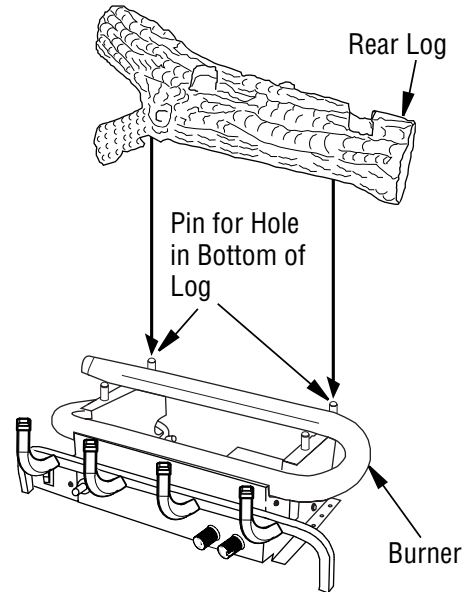

Figure 21 - Installing Rear Log
- Place the rear log onto base. Notches in the back of the log must seat over the pins on base as shown in **Figure 21**. Make sure the rear log is pushed back as far as it will go.